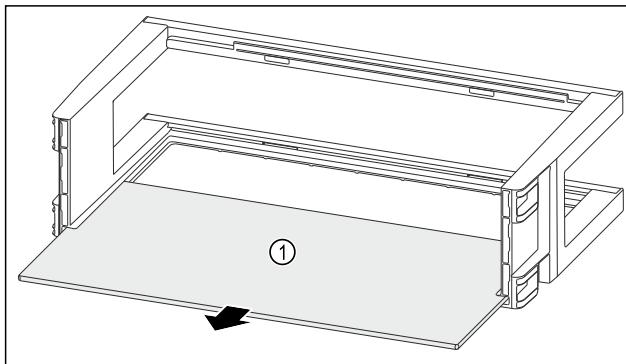

Fig. 130
- Remove the shelf Fig. 130 (1).